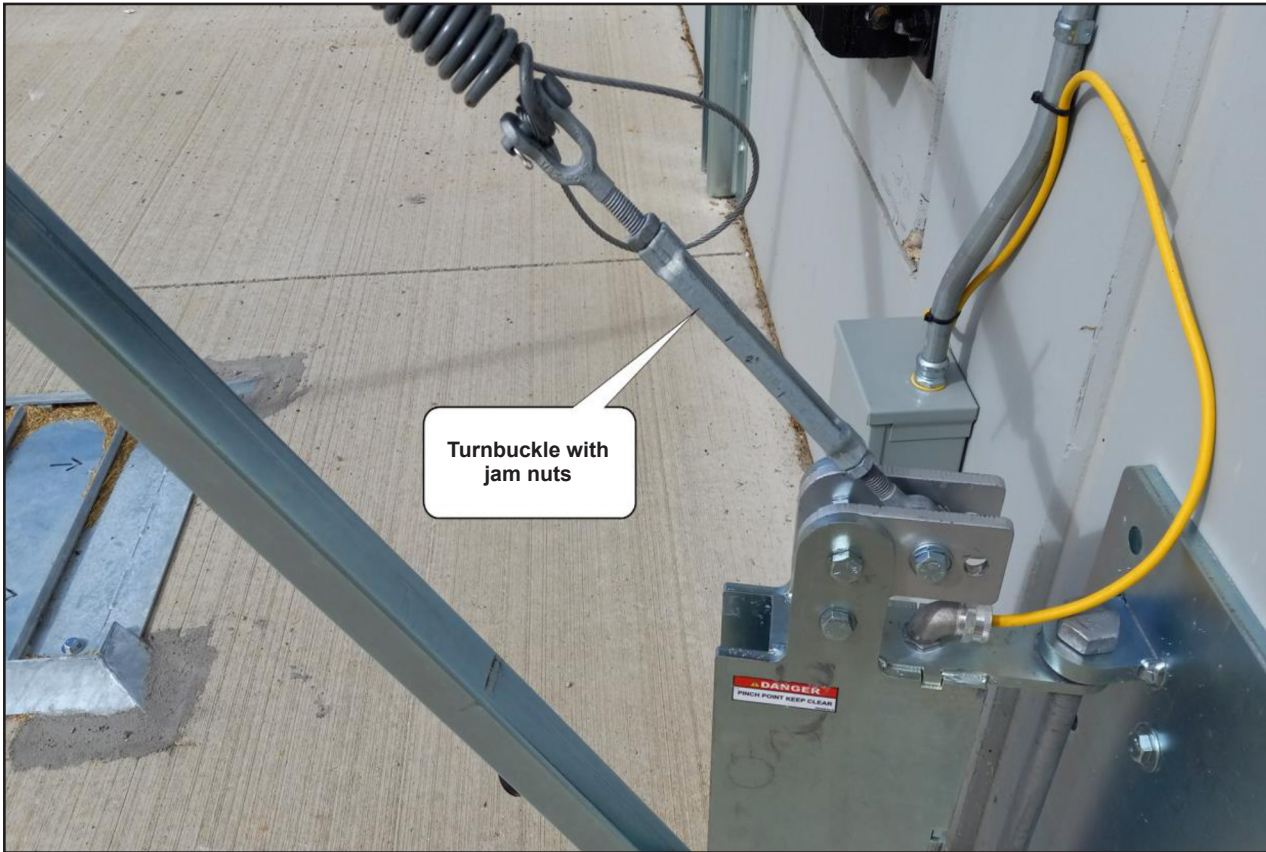

Figure 53
2. Adjust the spring tension with the turnbuckle, shown in **figure 53** on page 46. Loosen the jam nuts then adjust the turnbuckle to the desired tension. The arm should retract towards the wall within 5 seconds or less.